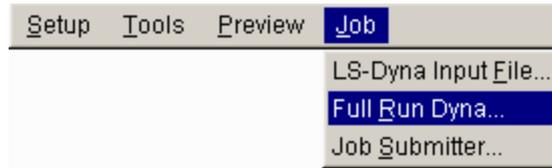

Figure 6.13 Job Submitter menu
1. Select **Job**→**Full Run Dyna...** in the menu bar. See Figure 6.13.